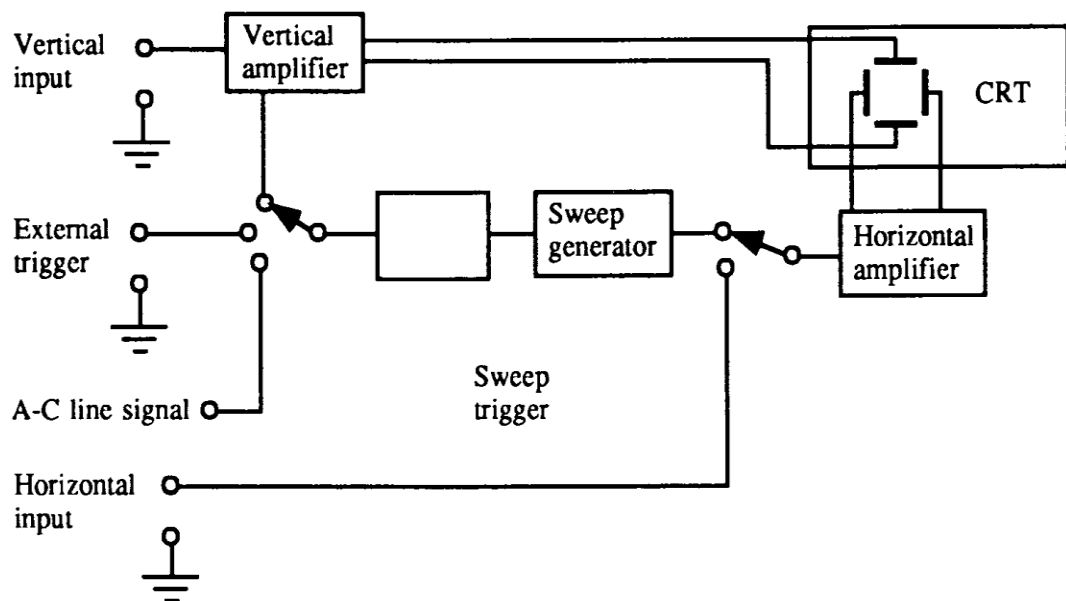

Figure 3. Block diagram of a typical oscilloscope.
**CRO Operation:** A simplified block diagram of a typical oscilloscope is shown in Fig. 3. In general, the instrument is operated in the following manner. The signal to be displayed is amplified by the vertical amplifier and applied to the vertical deflection plates of the CRT. A portion of the signal in the vertical amplifier is applied to the **sweep trigger** as a triggering signal. The sweep trigger then generates a pulse coincident with a selected point in the cycle of the triggering signal. This pulse turns on the sweep generator, initiating the sawtooth wave form. The sawtooth wave is amplified by the horizontal amplifier and applied to the horizontal deflection plates. Usually, additional provisions are made for applying an external triggering signal or utilizing the 60 Hz line for triggering. Also the sweep generator may be bypassed and an external signal applied directly to the horizontal amplifier.